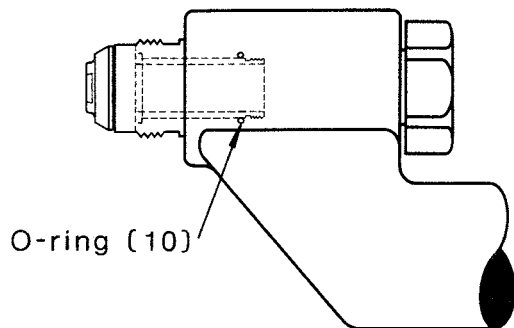

Figure 4-B O-Ring Location
- 7) Remove the O-ring (10) from the inside of the torch (Fig. 4-B) by spearing it with the point of the O-ring removal tool and dislodging it from the groove. Using the hooked end of the O-ring tool pull the O-ring out of the torch.